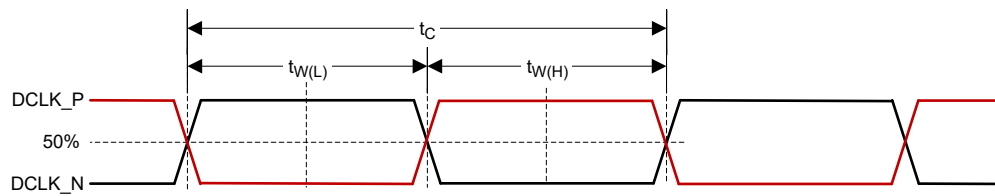

Figure 5-13. HSSI CLK Characteristics
(6) See Figure 5-13 for pulse duration high and low for HSSI.